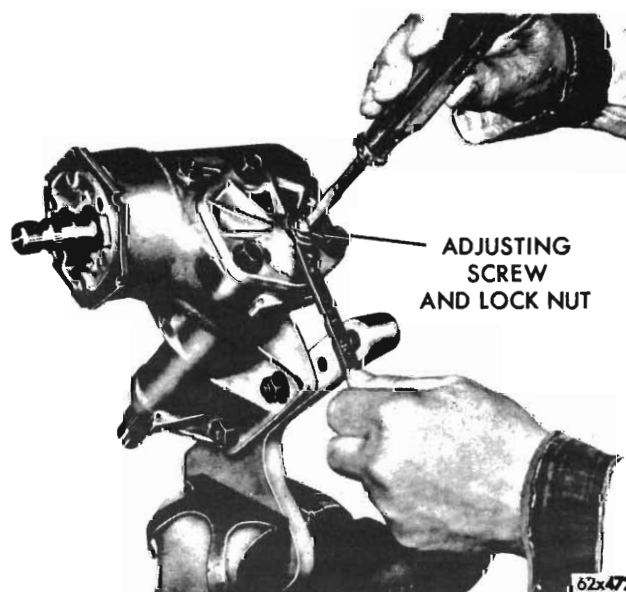

Fig. 15 - Cross-shaft adjustment (typical)
(1) Turn the wormshaft to the midpoint of its travel. When the gear is exactly centred, the master spline on the wormshaft will be at the 12 o'clock position when viewed with the gear positioned as it would be when installed in the vehicle.
(2) Turn the cross-shaft adjusting screw clockwise to take out all lash between the ball nut rack and sector gear teeth, then tighten the adjusting screw lock nut (*See Fig. 15*).